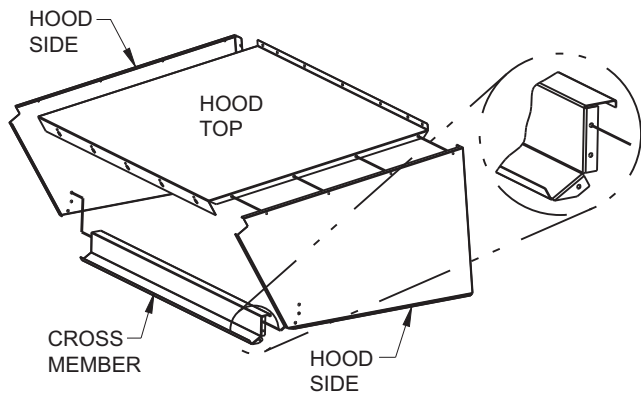

Fig. 26 — Economizer Hood Assembly
3. Assemble hood sides, top, and cross member with gasketed screws provided. See Fig. 26.